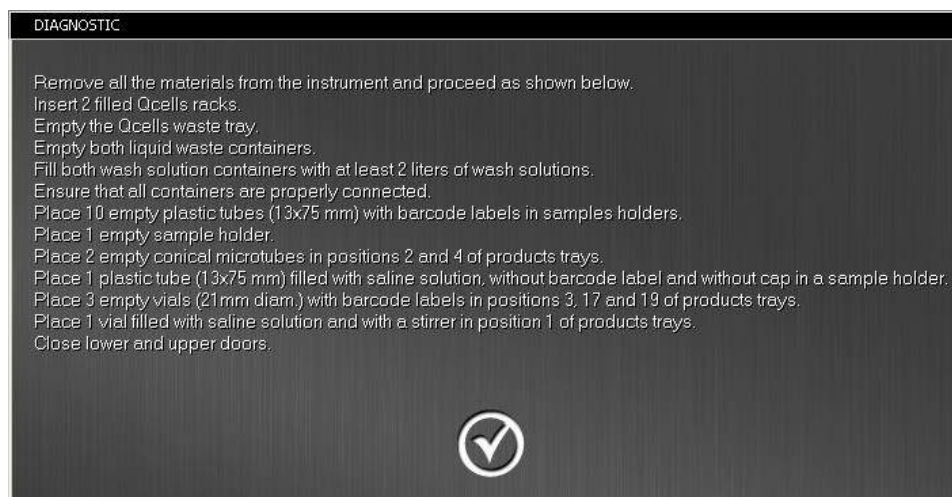

Figure 16.4. Required Materials and Actions Window
- Press the  button. When pressing this button, a window details the materials required and the actions to be performed by the Operator before beginning the Diagnostic procedure so that the instrument is able to execute the selected tests (Figure 16.4).
- Once all the actions required to execute the selected tests have been performed (Figure 16.4), press the  button and then **Accept**.